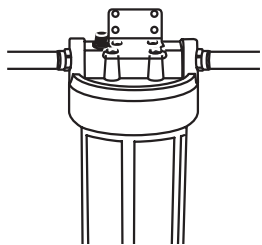

Figure 6
- 8** Fasten bracket to filter head with four Phillips Head screws provided. If pre-drilling holes, use bracket as a template for screw hole locations. (See Figure 6).